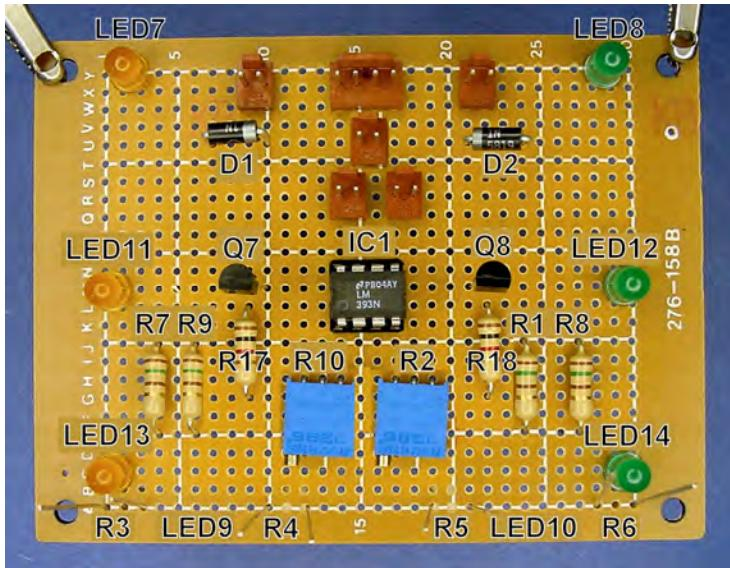

Figure 23-5. Breadboard with line-following circuit laid out. R3, R4, R5, R6, LED9, and LED10 are on the underside of the board.
4. Lay out the components onto the breadboard (see Figure 23-5). Try to place components so that they are nearest the other components to which they will connect. This reduces the length of the wires and reduces the number of wires that cross over each other.
A suggested layout appears in Figure 23-5. Notice that the LEDs are distributed on the far sides to increase visibility. The comparator is in the center flanked by transistors because the comparator connects to the greatest number of components. The brightness balancing and headlight brightness-adjusting trimpots are far forward to make them easy to reach from the front of the robot.